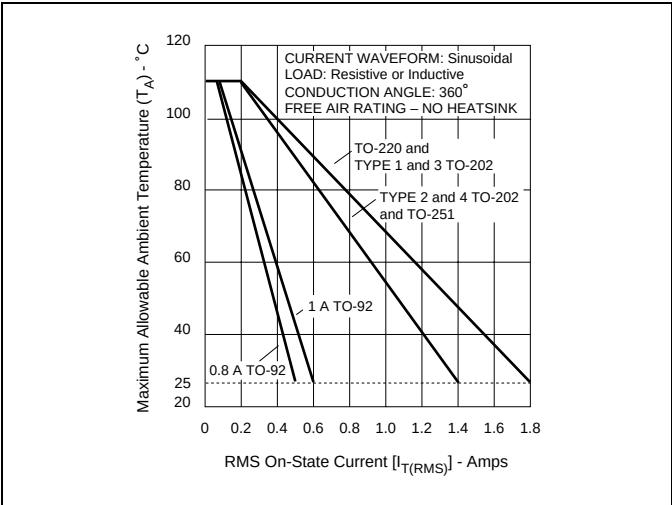
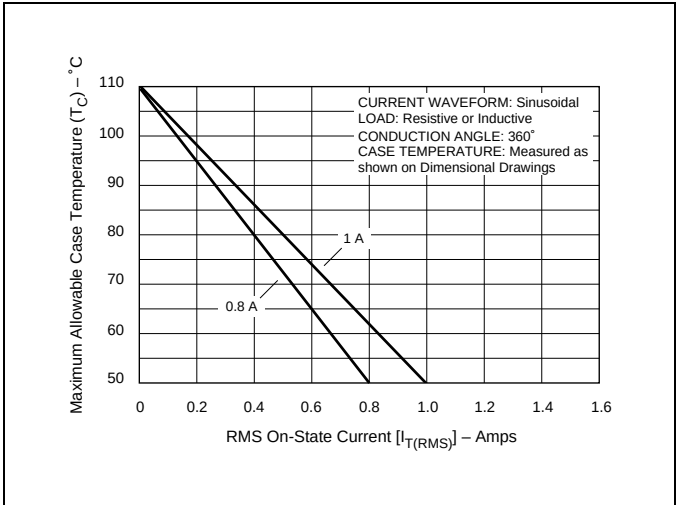
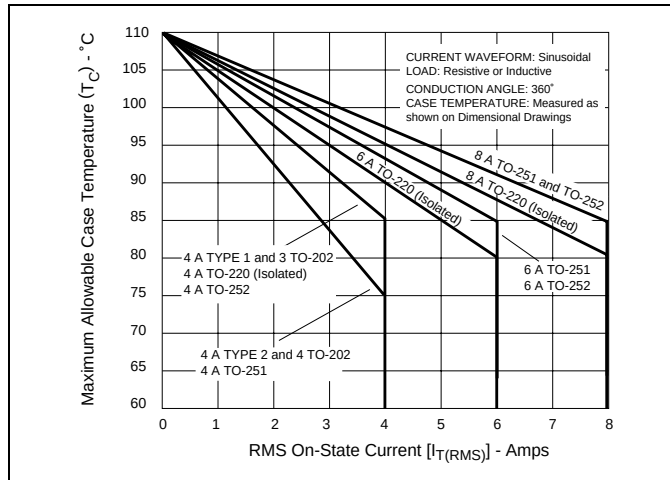

Figure E1.1 Maximum Allowable Ambient Temperature versus On-state Current
Figure E1.2 Maximum Allowable Case Temperature versus On-state Current (0.8 A and 1 A)
Figure E1.3 Maximum Allowable Case Temperature versus On-state Current (4 A, 6 A, and 8 A)
- (10) See Figure E1.2 and Figure E1.3 for maximum allowable case temperature at maximum rated current.
- (11) See Figure E1.1, Figure E1.2, and Figure E1.3 for T_A or T_C versus $I_{T(RMS)}$.
- (12) See package outlines for lead form configurations. When ordering special lead forming, add type number as suffix to part number.
- (13) Pulse width $\leq 10 \mu\text{s}$
- (14) T_C or $T_L = T_J$ for test conditions in off state
- (15) Minimum non-trigger V_{GT} at 110°C is 0.2 V.